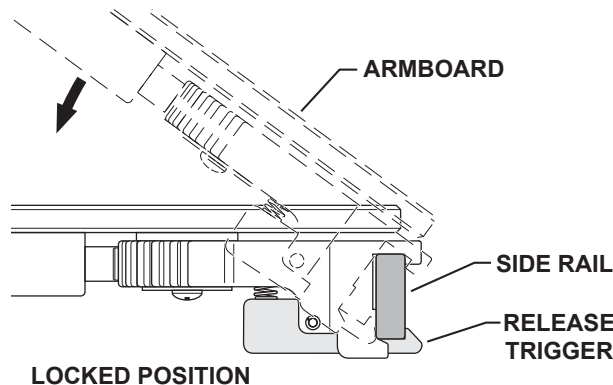

Figure 1. Install the Armboard
1. Place the release trigger clamp over the side rail at approximately a 45 degree angle. (Figure 1).